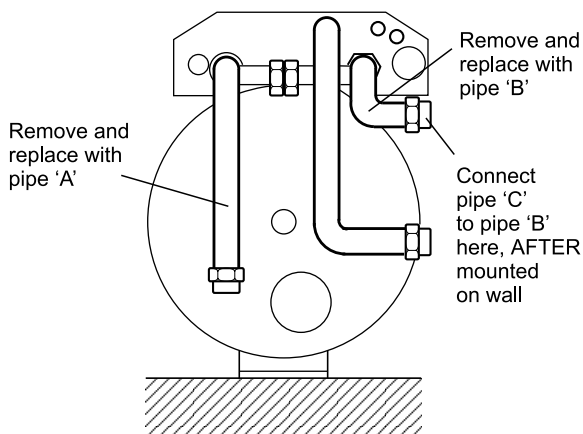

Fig. 2a - CombiMax 350
1. Place the storage cylinder on its back, then remove and discard the pipework shown in Fig. 2a or 2b.
2. Fit the pipework 'A' and 'B' (section 4.1), supplied in the kit to the storage cylinder in place of the pipework removed, see Fig 2a or 2b. Ensure that all joints have been fitted with the sealing washers supplied.
Note: Pipework 'C' (section 4.1) is used to connect between the boiler outlet and the end of pipe 'B', see Figs. 2a and 3a for CombiMax 350 and 2b and 3b for CombiMax 600.